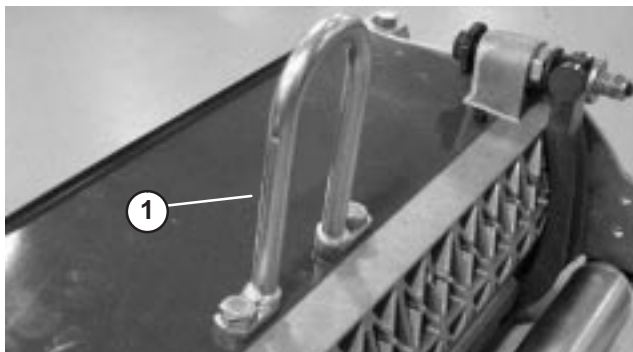

Figure 2
- Hoop link (Fig. 2) for Greensmaster 3000, 3000-D, 3050, 3100 and 3150 traction units. Install hoop link to top of cutting unit with (2) capscrews. Torque capscrews to 25–30 ft-lbs. (34–40 N·m).